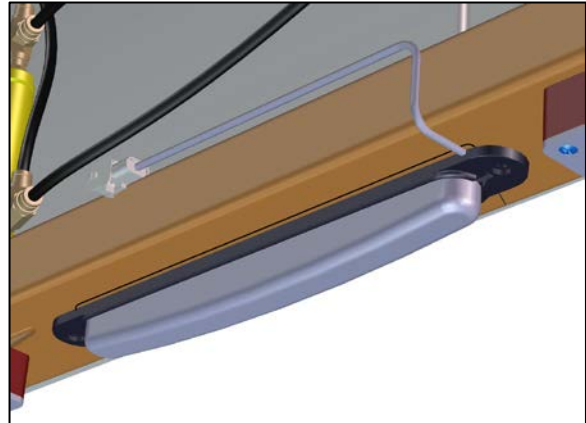

Figure 6
8. Center the entrance door light (Figure 6) with the marks made in step 41.
9. Mark the position of the holes to be drill through the metal structure (Figure 6). These holes will be used to support the light with screws.